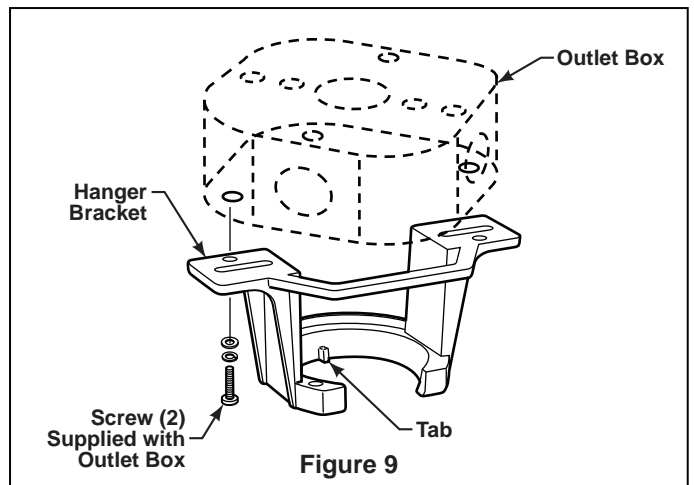

Figure 9
- 1. Securely attach the hanger bracket to the outlet box using the outlet box screws and washers supplied with the outlet box. (Figure 9)